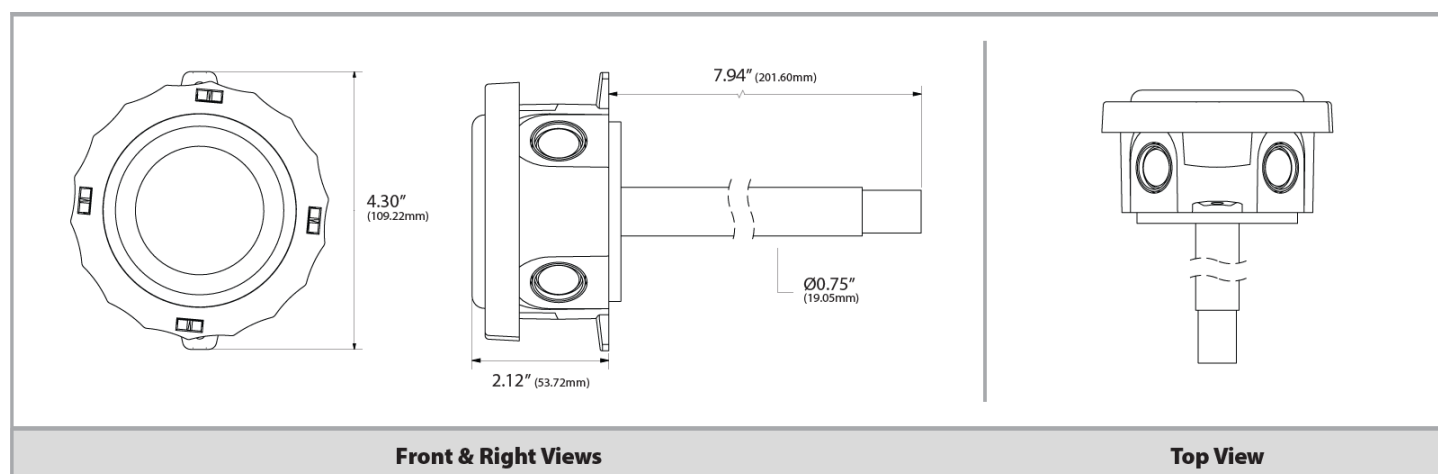

Figure 1: Dimensional Drawing
- Duct probe should be placed (3) to (4) duct segments down from any bend or obstructions and away from 90° bends.
The BACnet/Modbus RTU Duct Temperature-only sensor uses the Plastic Box (-PB) enclosure. Alternatively, the Euro (-EH) enclosure is used for the Relative Humidity (RH) sensor and RH/Temperature Combo sensor (see FIGURE 1). Be sure to follow the instructions listed for your enclosure.